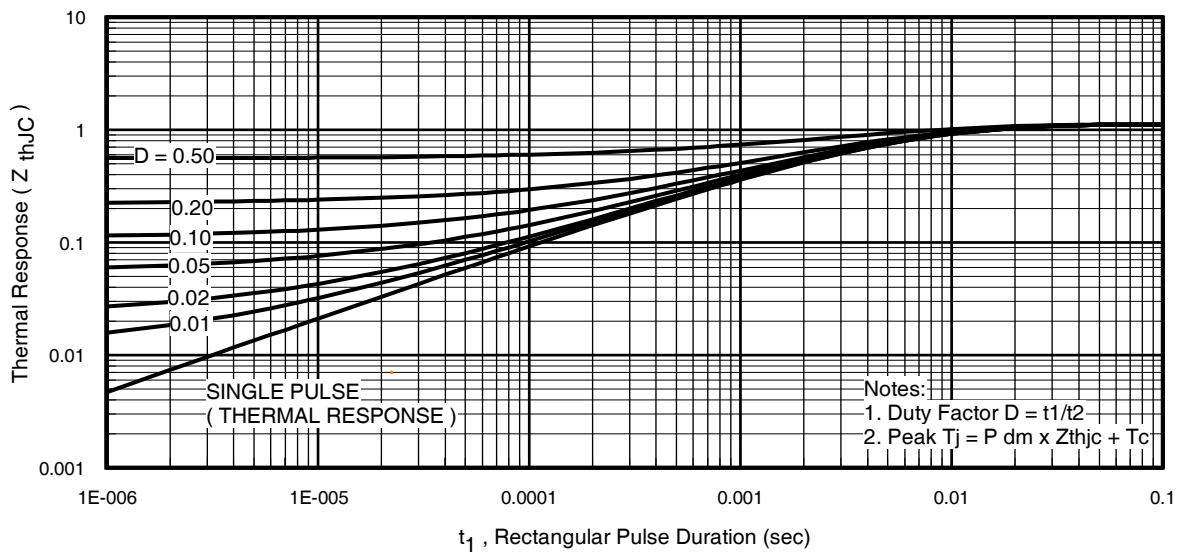
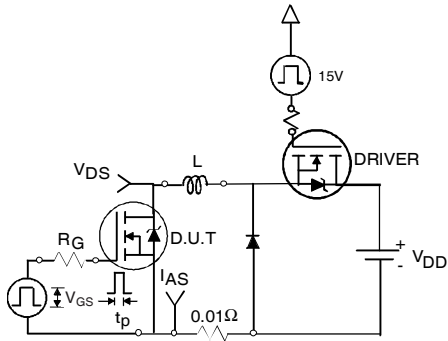

Fig 11. Maximum Effective Transient Thermal Impedance, Junction-to-Case
Fig 12a. Unclamped Inductive Test Circuit
- ① Repetitive rating; pulse width limited by max. junction temperature. (See fig. 11).
- ② Limited by T_{Jmax}, starting T_J = 25°C, L = 0.05mH, R_G = 25Ω, I_{AS} = 75A, V_{GS} = 10V. Part not recommended for use above this value.
- ③ Pulse width ≤ 1.0ms; duty cycle ≤ 2%.
- ④ C_{oss eff.} is a fixed capacitance that gives the same charging time as C_{oss} while V_{DS} is rising from 0 to 80% V_{DSS}.
- ⑤ Limited by T_{Jmax}, see Fig.12a, 12b, 15, 16 for typical repetitive avalanche performance.
- ⑥ This value determined from sample failure population, starting T_J = 25°C, L = 0.05mH, R_G = 25Ω, I_{AS} = 75A, V_{GS} = 10V.
- ⑦ This is only applied to TO-220AB package.
- ⑧ This is applied to D²Pak, when mounted on 1" square PCB (FR-4 or G-10 Material). For recommended footprint and soldering techniques refer to application note #AN-994.
- ⑨ R_θ is measured at T_J approximately 90°C.
3. Equation below based on circuit and waveforms shown in Figures 12a, 12b.
$Z_{thJC}(D, t_{av})$ = Transient thermal resistance, see figure 11)